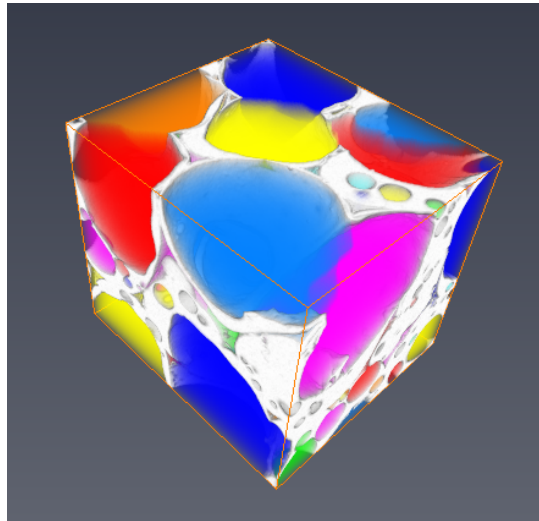

Figure 18.9: Void Data Mixed with Original Data
7. Display the result by creating another *Volume Rendering* module on the previous output (see Figures 18.9 and 18.10).